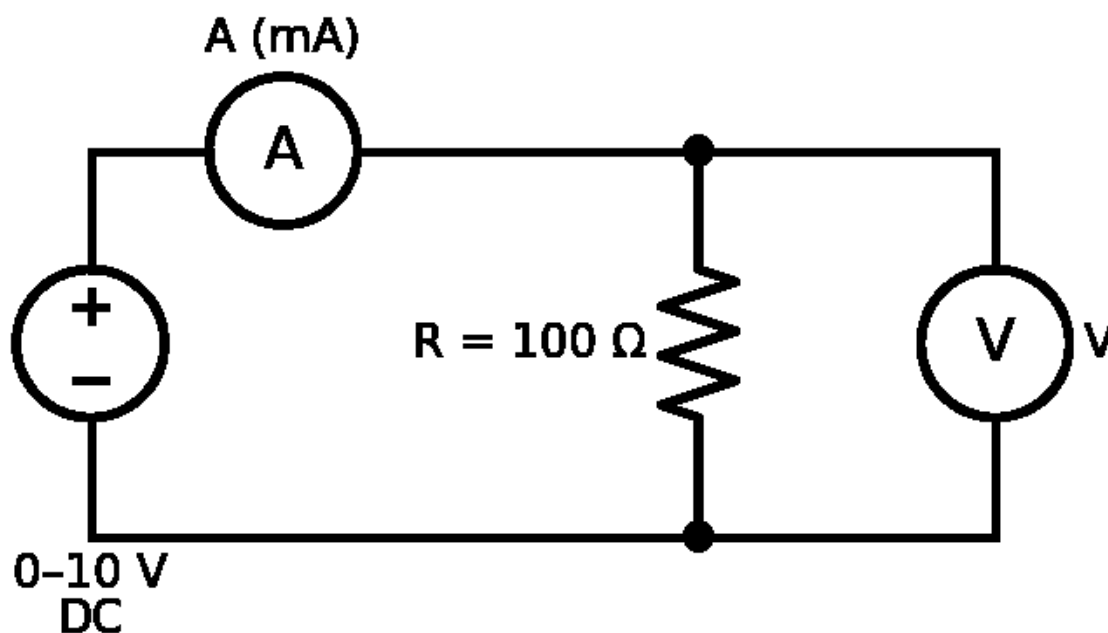

Figure 1.2: Circuit for verifying Ohm's law.
- Connect the circuit of Figure 1.2 with the supply at zero. Check the polarity of the meters.